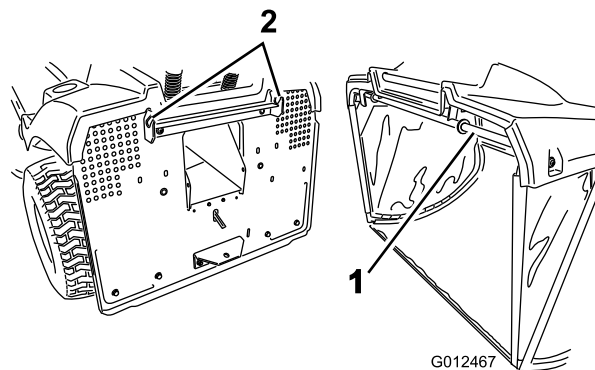

Figure 36
1. Hang the top support bar onto the 2 notches in the support bracket at the rear of the machine (Figure 36).